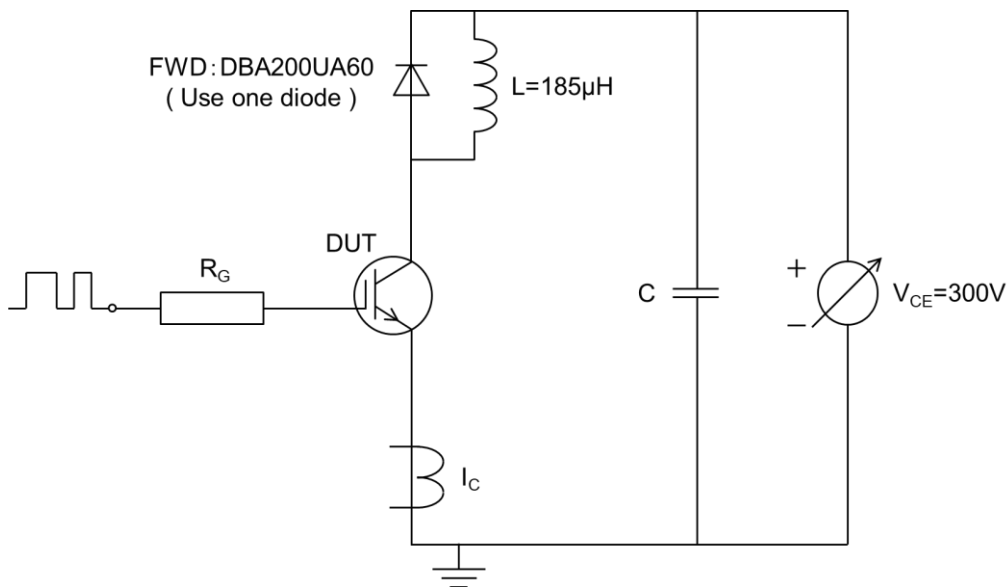

Fig.1 Inductive load switching time test circuit
*1 : Please refer Fig.1 in page 5 about test circuit.